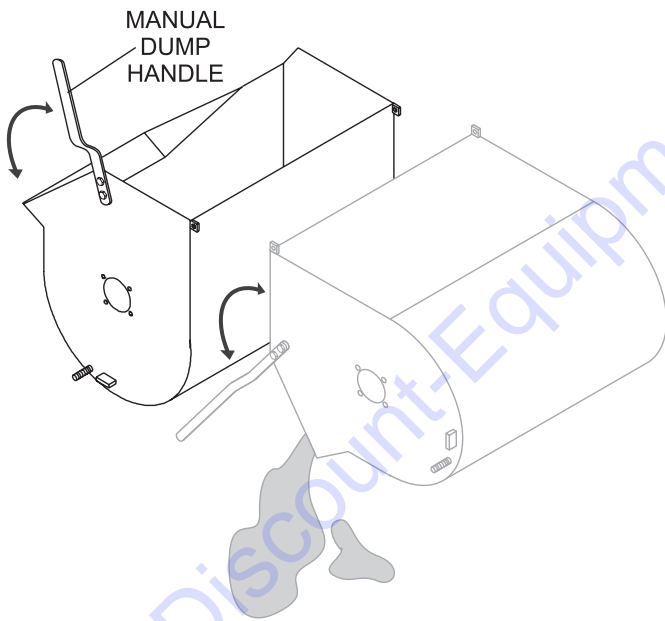

Figure 23. Manual Dump Handle
2. Pull dump handle downward to discharge (empty) the drum. Move dump handle upward to return it to vertical position. (Figure 23).